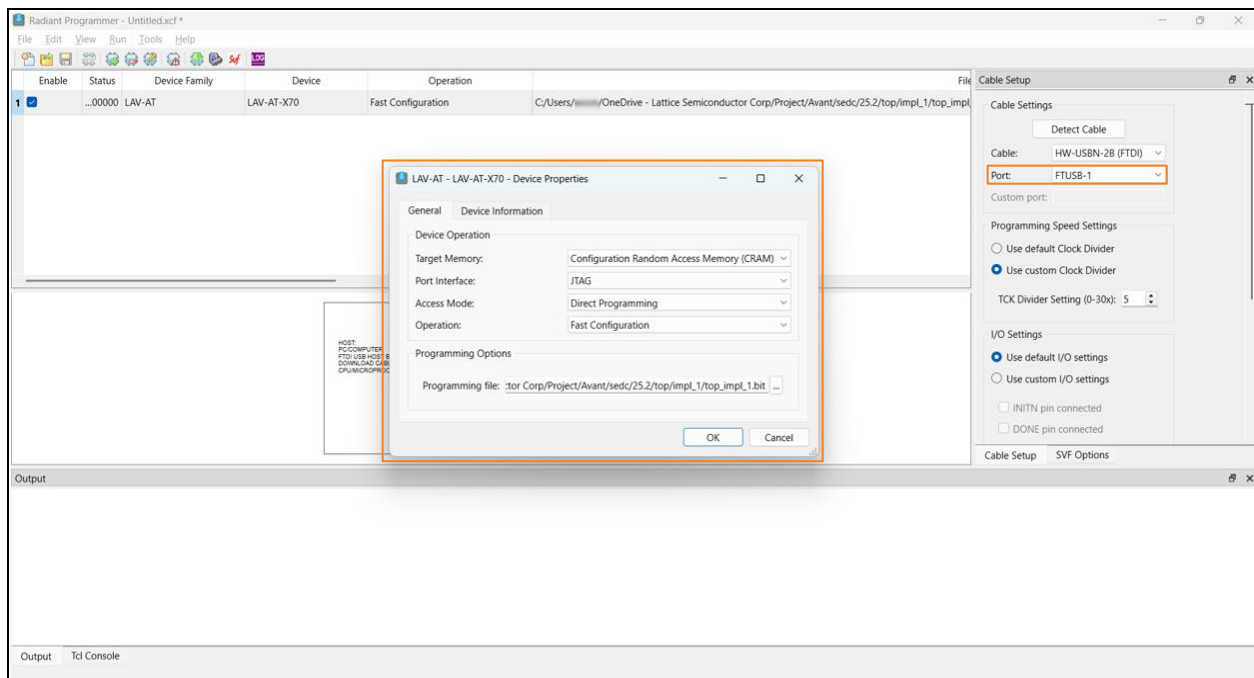

Figure 7.1. Setting Device Properties in the Radiant Programmer Tool
3. Configure the device properties as shown in Figure 7.1, then click **OK**.